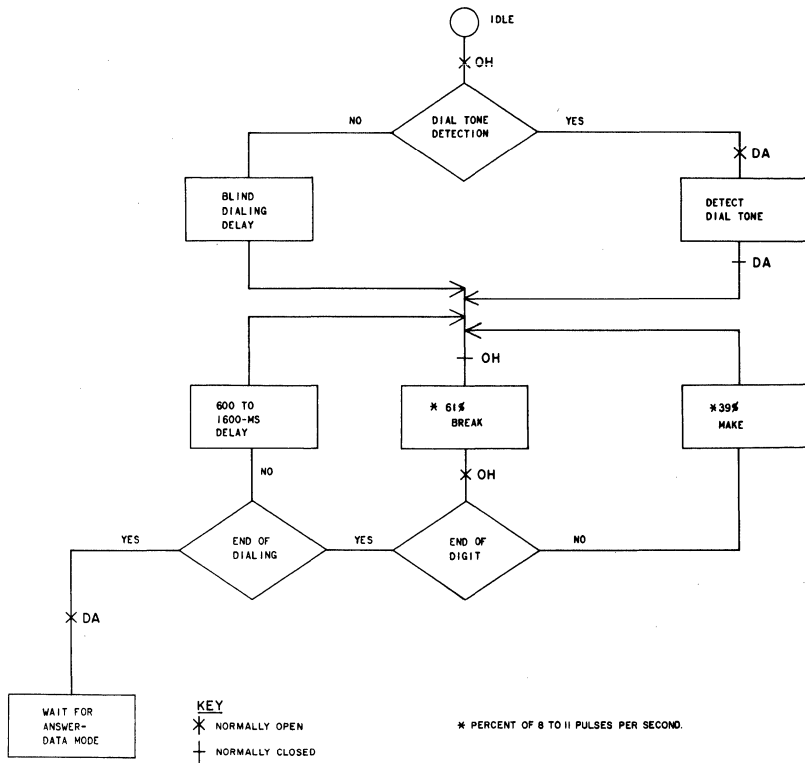

Fig. 4—Customer Automatic Calling Sequence Diagram—DC Dial Pulsing
2.15 Call Origination: Closing the OH interface lead to -V by the customer, either for call origination or for transfer from a manually originated call, causes the OH relay to provide the off-hook function as previously described. Opening the OH lead causes the OH relay to release and open the dc path through the coupler. This sequence of operations permits the data terminal to generate dial pulses for call origination when dial tone is present. The pulsing sequence and timing requirements are as follows (Fig. 4):